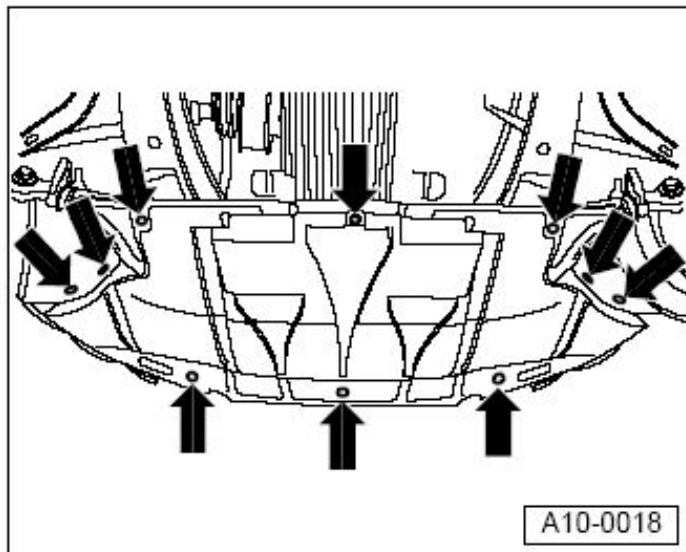

Figure 2. The locations of the screws.
6. Raise vehicle, remove screws (Figure 2) and remove sound dampening pan.